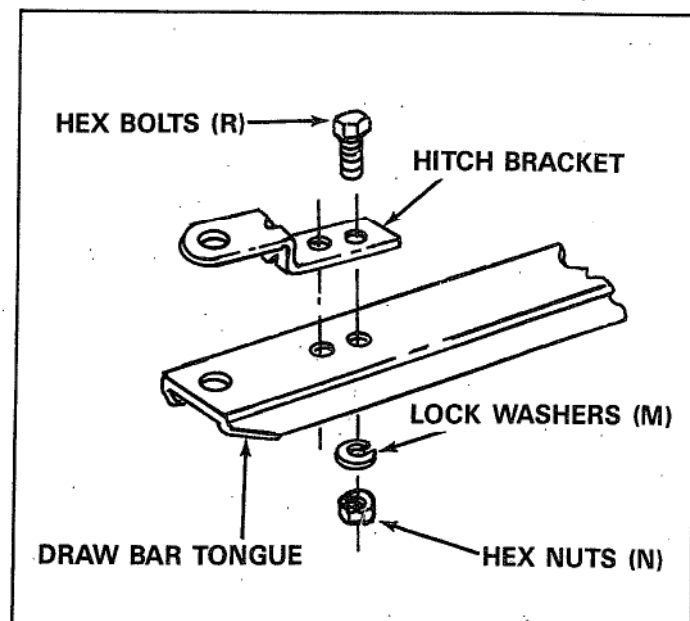

FIGURE 11
17. Assemble hitch bracket to drawbar tongue, using 3/8" x 1" long hex bolts (R), lock washers (M) and hex nuts (N). See figure 11.